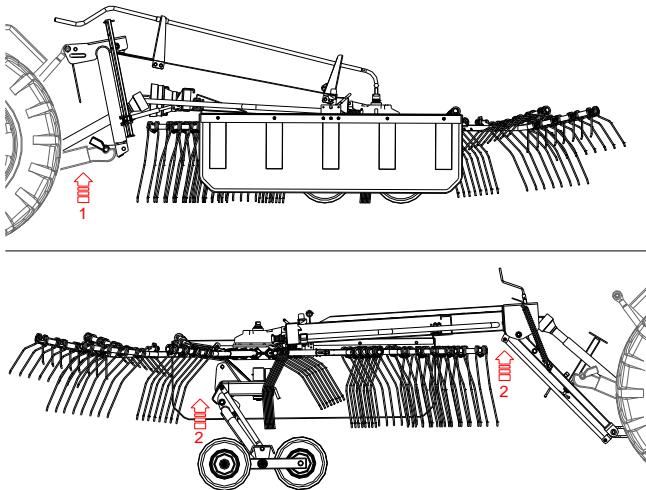

Fig.28
- **Mounted type (fig.28):** all the equipment must be lifted by using the tractor hydraulic lift (1), until tines will be at 30 cm from the ground;
- **Pull type (fig.28):** the entire frame must be lifted by using the hydraulic lift (2), which is controlled by the corresponding lever of the tractor auxiliary circuit, from the cabin.